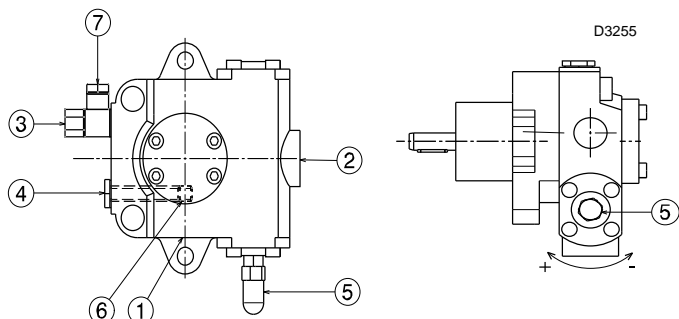

Fig. 21
In order to obtain single-pipe working it is necessary to unscrew the return hose, remove the by-pass screw 6)(Fig. 21) and then screw the plug 2).
For the priming pump loosen the screw 3)(Fig. 21) in order to bleed off the air contained in the suction line and wait until the fuel flows out.
The pumps are equipped with a by-pass that connects return line and suction line. The pumps are installed on the burner with the by-pass closed by screw 6)(Fig. 21).
- For self-priming to take place, the screw 3)(Fig. 21) of the pump must be loosened in order to bleed off the air contained in the suction line.